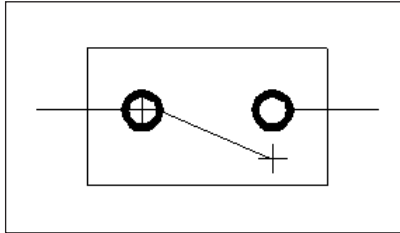

Figure 7-11: The completed electrical switch. The points show as plus signs.
(need YZ): Pick a point about halfway between the right donut and the bottom of the rectangle, as shown in Figure 7-11.
8. Save your drawing. It should look like Figure 7-11.